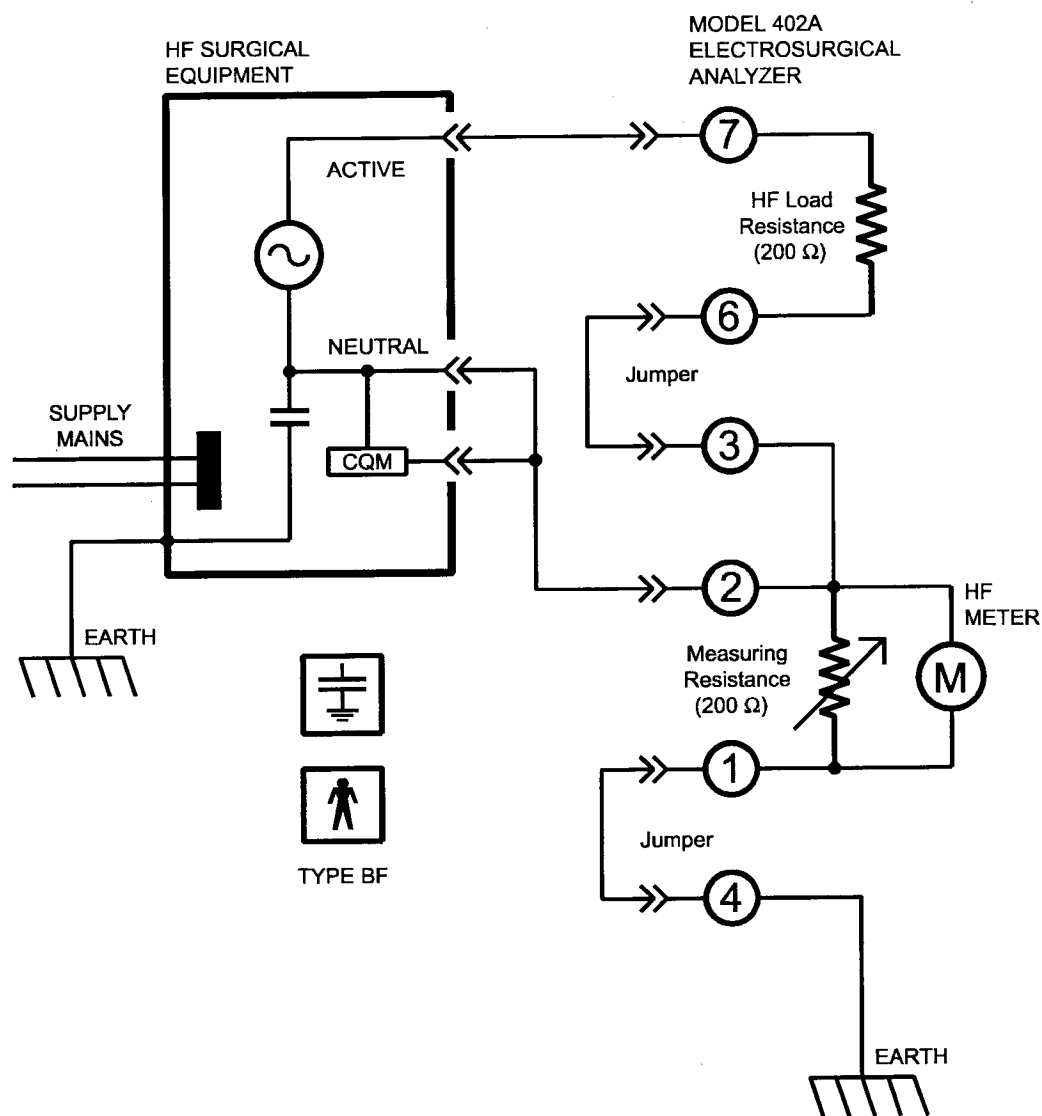

Figure 5-2. Diagram of HF Leakage Test Number One.
The HF leakage test number one (1) is an IEC earth referenced, BF type, HF leakage test. You perform the test by connecting the auxiliary HF load resistance (200 ohms) across the ESU's monopolar output. High frequency leakage current is then measured from the neutral/dispersive electrode to the earth ground reference through the measuring resistance set at 200 ohms and the HF meter. You can view the resulting measurement on the Model 402A's display. See Figure 5-2 for a diagram of this test at the end of this section.